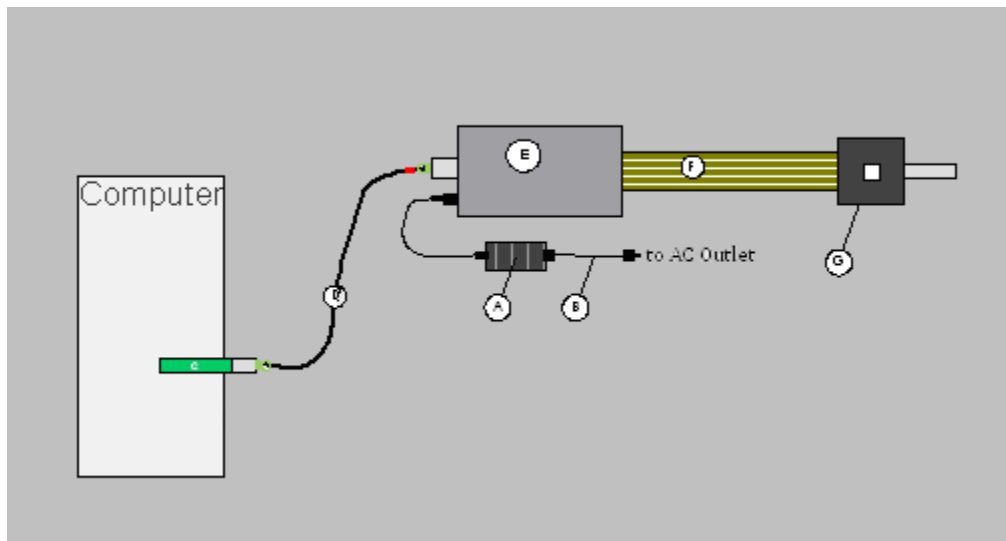

Figure 6 ~ Top level diagram illustrating major components of the Meadowlark SLM system contents.
The diagram in Figure 6 shows the hardware for one SLM system. The PCIe host adapter board (C) plugs into a standard PCIe bus slot on an IBM-compatible personal computer (PC). This board provides an extension of the PCIe signals. When the system is running, control commands and digital image data are sent from the PCIe host adapter board through the PCIe cable (D) to the PCIe Driver Module (E) where it is converted to an analog data signal. The analog data signals are then transferred through the ribbon cable (F) to the Op-Amp board (on the SLM head assembly (G)) where they are amplified to appropriate levels.